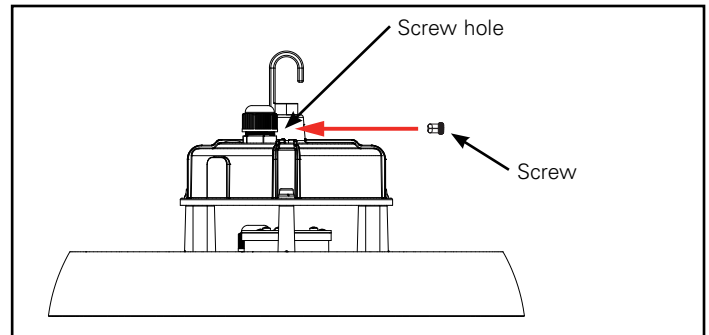

Figure 2.
2. Install and tighten the set screw. (Figure 2.)